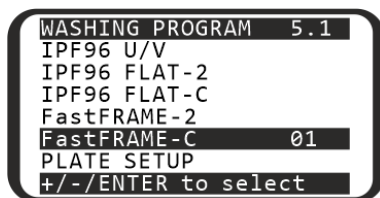
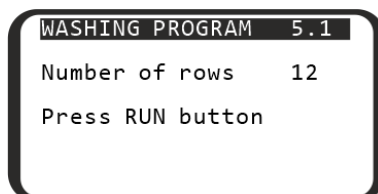

Figure 10. Program selection in 3D-IW8
Figure 12. Row count selection menu
5.7.2. In figure 10, the user chose the first program (01) of the fifth type (FastFRAME). The choice can be seen in the top right corner (5.1).
5.9.1. By default, the unit washes all rows of the microplate. In order to wash less rows, when in the program selection menu (figure 10) press **Row ▲** (fig. 7/2). Display shows the row count menu (figure 12). To set the necessary number of rows, use the **+** and **-** keys. To cancel and return to the previous menu, use the **Esc** key. To save and start the program, continue reading.